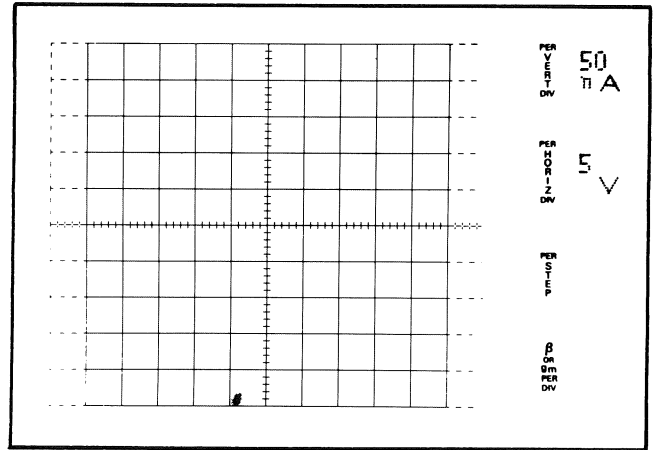

Fig. 2-7. Test 5,  $I_{CES}$
10. ADVANCE the 172 to Test 5, the  $I_{CES}$  test. Verify that the leakage at the specified voltage is within limits. For the sample transistor (2N4275),  $I_{CES}$  was 5  $\mu\text{A}$  at 20 V (Fig. 2-7).